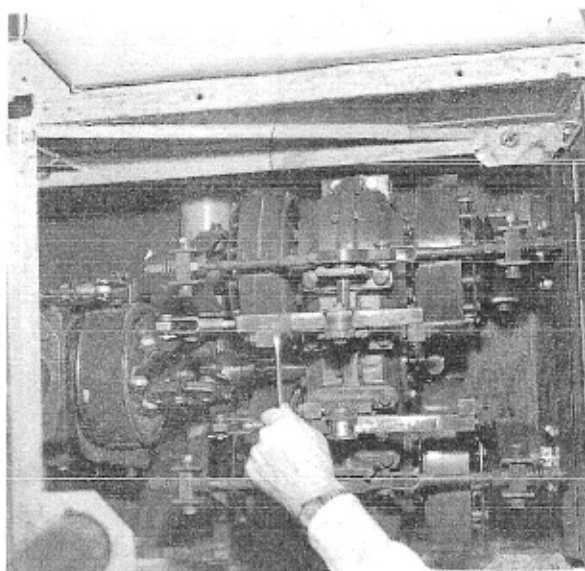

FIG. 2
- 6-70 The rack is provided with capscrews as stops and adjustment should be made so that just beyond top dead center or cam top of the eccentric, the rack will come against its stop (See Drawing 22A-4, Items #28 and #29). This makes it unnecessary for the operator to recompress the spring in order to disengage the clutch (See Figure 2).